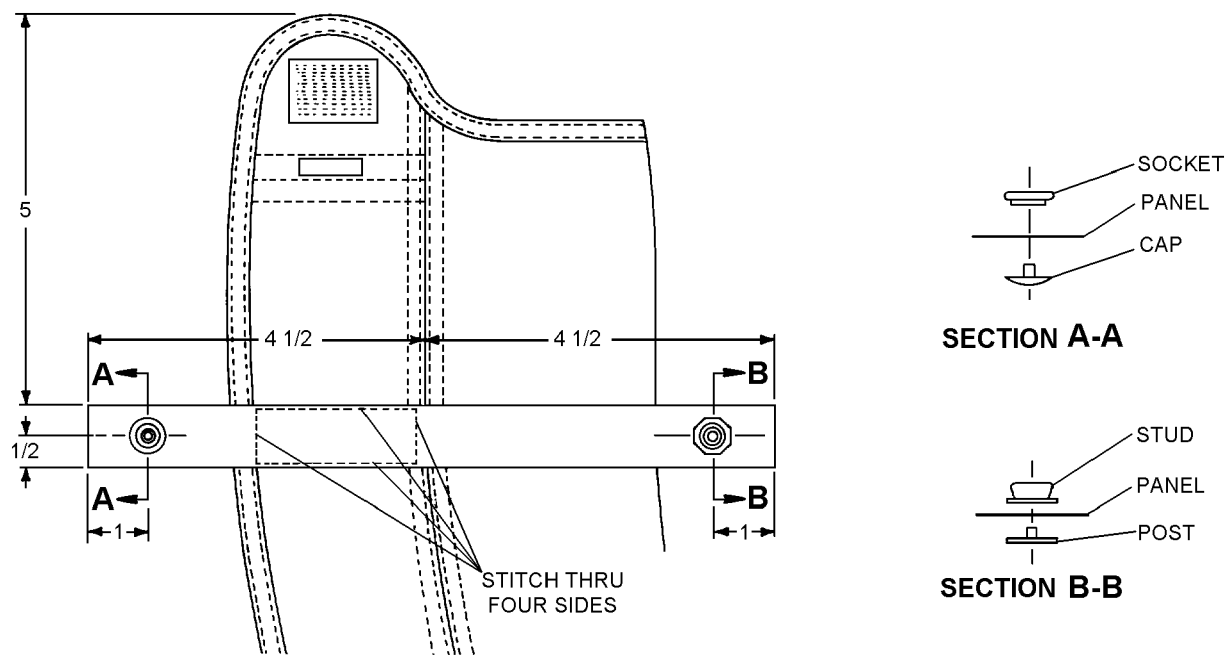

Figure 15-9. Addition of Webbing Loops
2. Sew one piece of webbing to outer side of each collar lobe casing in accordance with dimensions shown in figure 15-9.
3. Position and install snap fasteners in accordance with dimensions shown in figure 15-9, and ensure proper mate.